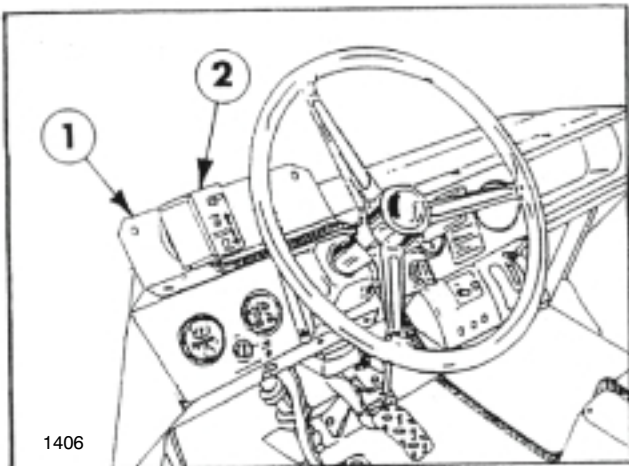

FIG. 10
1. Remove two screws on the Workman dash panel and use them to attach the Control Console Bracket to dash as shown in FIG. 10.
7. Attach the Magnet and Control Box to the front of the Enclosure as shown in FIG. 10.